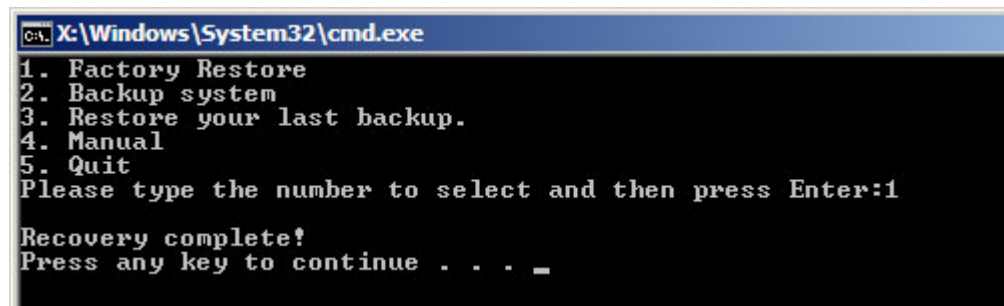

Figure A-28: Recovery Complete Window
Step 3: The screen is shown as in **Figure A-28** when completed. Press any key to reboot the system.